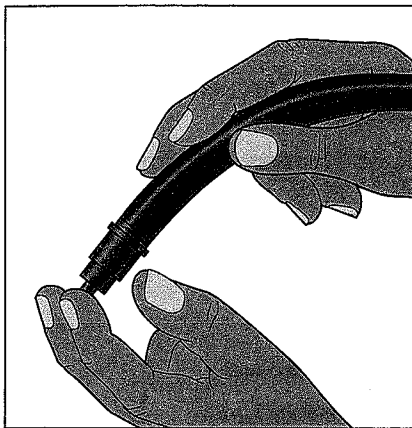

Figure 13-8:
- ✓ **Method 2:** Remove the PCV valve from the valve cover, with the hose still attached, and place your finger over the open end of it (see Figure 13-8). If it's working well, you will feel strong suction.